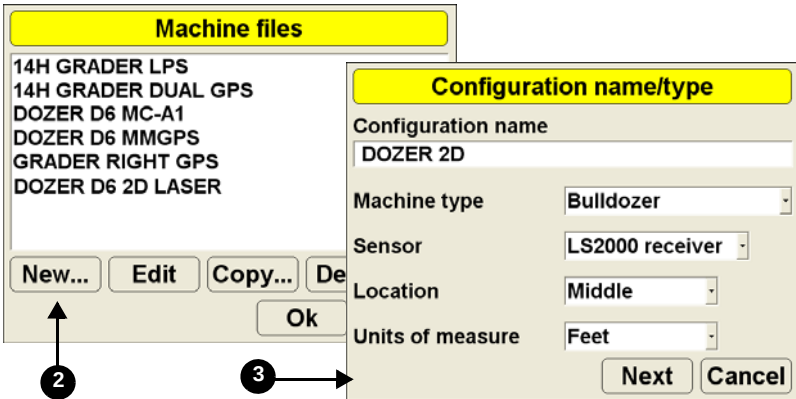

Figure 9-10. Creating the Machine File.
3. Enter or select the following configuration and equipment parameters (Figure 9-10 on page 9-8). Then press **Next**.